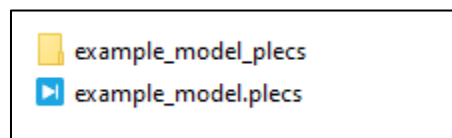

Figure 15: Example of local folder containing thermal models
**Local Path:** To do this, in the directory where the simulation file is located, the user can create a folder with the same name as the `.plecs` file, with the suffix `_plecs`. These models will only be available for the specific simulation in that folder and will be the prioritized models by PLECS. As an example, if a simulation named `example_model.plecs` is created, then a folder named `example_model_plecs` containing the `.xml` files can be placed in the same directory. This is illustrated in Figure 15. Note that PLECS will add thermal files when started, so it will need to be restarted if the files are added while PLECS is already open (or the thermal library can be refreshed).